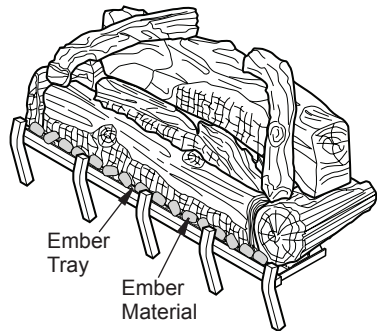

Figure 32 - Applying Ember Material
4. Break ember material into quarter sized pieces and place a single layer along the full length of ember tray to hide bottom edge of base log (see Figure 32).